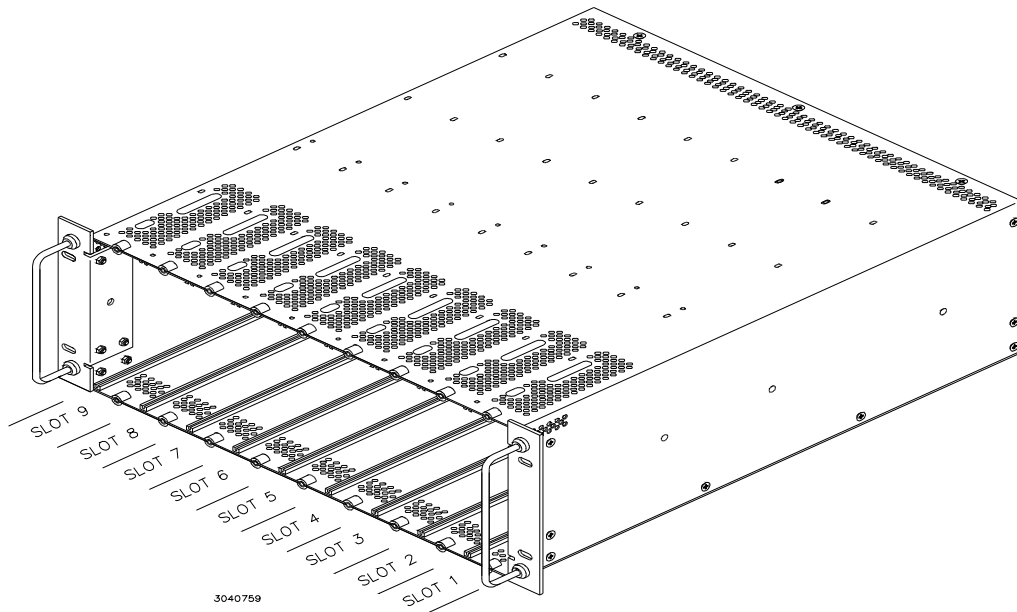

FIGURE 1. KEPKO MODEL RA 55 RACK ADAPTER
The Kepco Model RA 55 Rack Adapter (Figure 1) is designed for the installation of Kepco MST Series Power Supplies into a standard 19-inch rack. Each rack adapter can accommodate a maximum of nine power supplies, or eight power supplies and a communication bus controller (Kepco Model MST 488-27) installed in slot 9. The RA 55 has a removable plate at the rear of slot 9 to allow for the controller connector.
1. Prior to installation of MST Power Modules, remove the two plates installed in slots 3 and 7 (see Figure 1) for support during shipping.